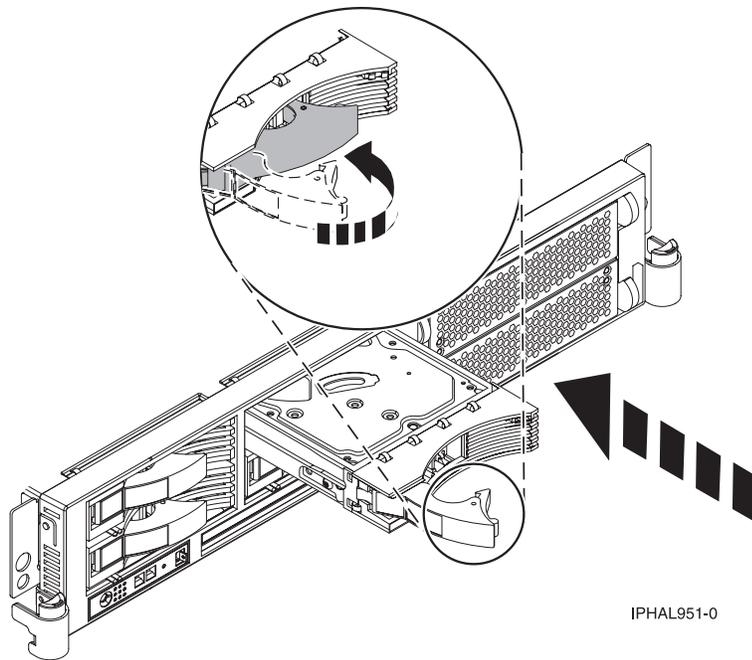
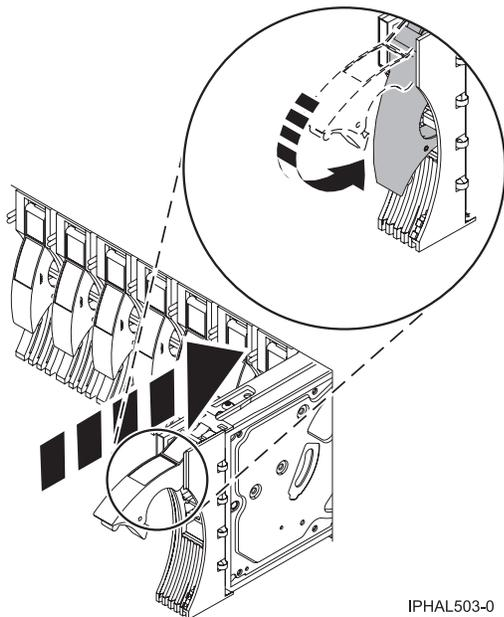

Figure 86. Installing a disk drive in a model 51x or 710
Figure 87. Installing a disk drive in a model 285, 52x, 55x, 9116-561, 570, 720, or 7311-D20
10. Slide the disk drive all the way into the system or expansion unit and then lock it in place by pushing in the disk drive handle, as shown in Figure 86 on page 85 or Figure 87 on page 85.